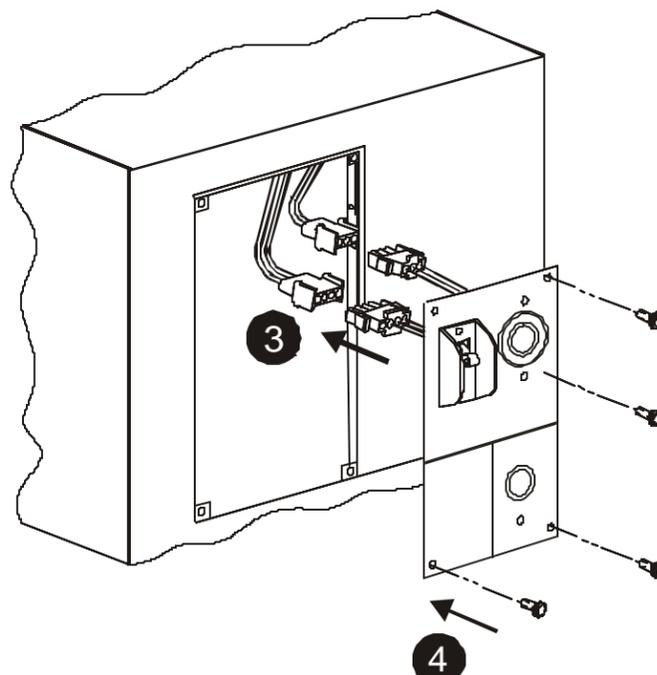

Figure 3.2 Installing Replacement Panel
3. Remove new PDU from its box and install the new PDU by first reconnecting the connectors as shown in Fig. 3.2.